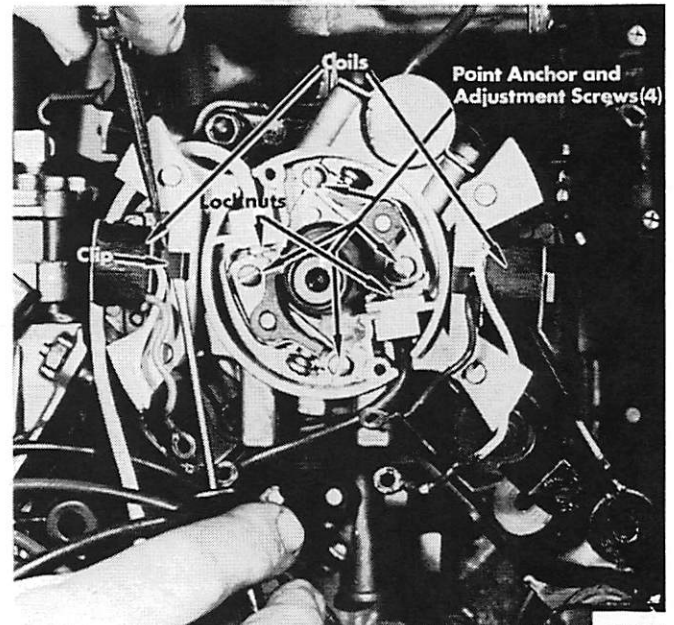

Figure 4. Coil Removal
11. Coils may be replaced by removing clips and pulling coil off plate. (Figure 4)